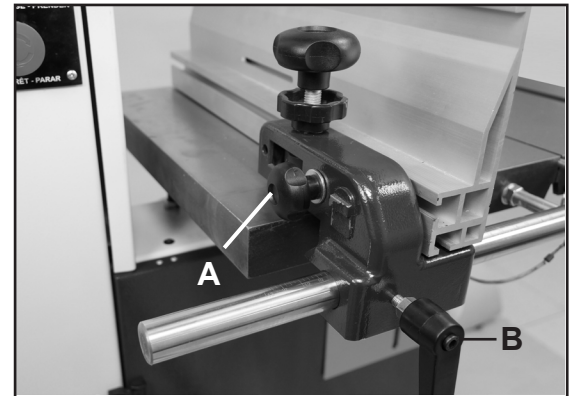

Figure 6
2. Slide the Fence Carrier Assembly (#9F) onto the fence's guide rail. Fig. 6.
3. Slide the Rip Fence (#18F) onto the fence carrier, and lock it in place by tightening the fence lock Knob (#7F) which is located on the carrier, opposite side to the fence. Fig. 6, A.
4. With the front Locking Handle (#10F, Fig. 6,B) secure the fence on the rail so that it does not move during the rest of the assembly process. Final adjustments to the fence are covered on pages 16 to 18. Information on the re-saw bar is on page 20.